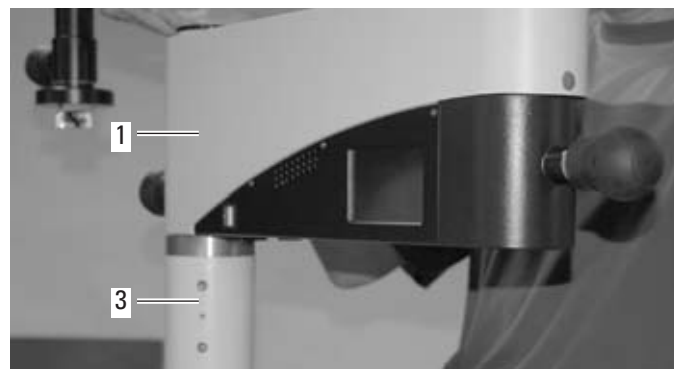

Fig. 4
- ⇒ Place the swing arm (1) on the column (3) (Fig. 4).